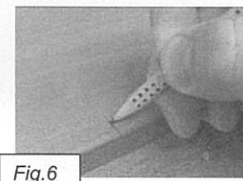
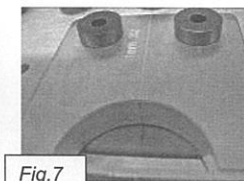
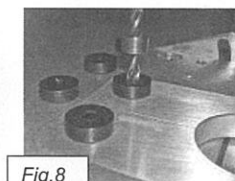

Fig. 6
Fig. 7
Fig. 8
- 2.1. Mark the centre between the two 32 mm holes on your work piece (*fig. 6*). Slide the jig onto the work piece as far as the edge of the work piece. Make sure that the centring mark on the drill guide is in alignment with the mark you made on the work piece (*fig. 7*). Secure the jig by tightening the clamping screw that is attached to the jig body. Now drill the hole with the appropriately adjusted stop ring (*fig. 8*).